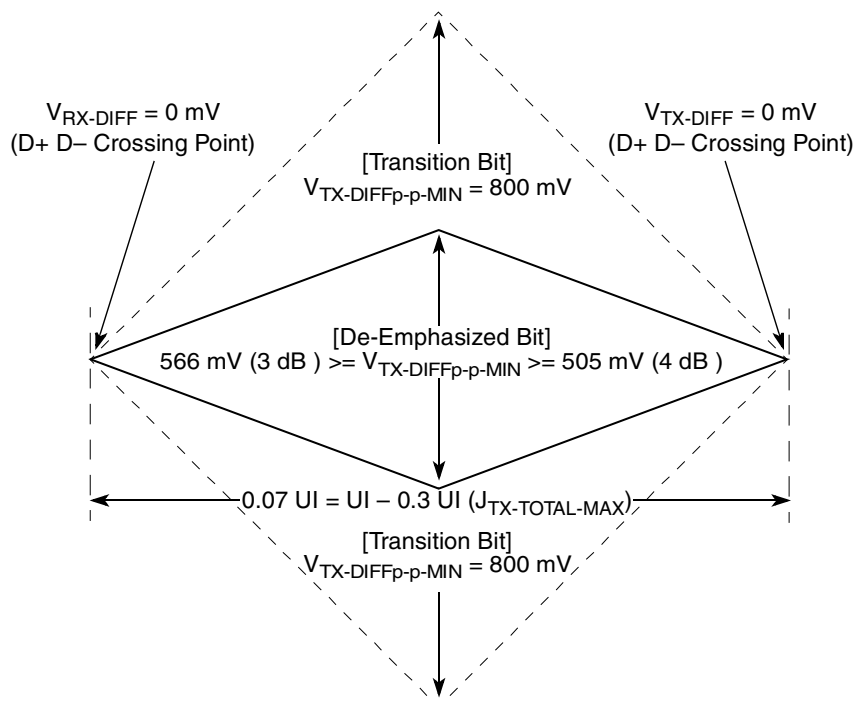
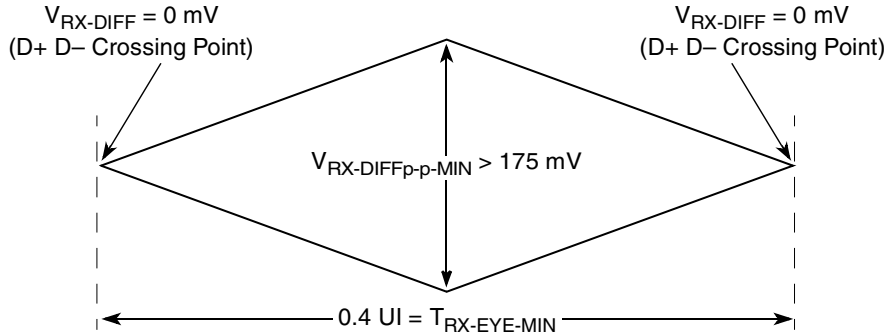
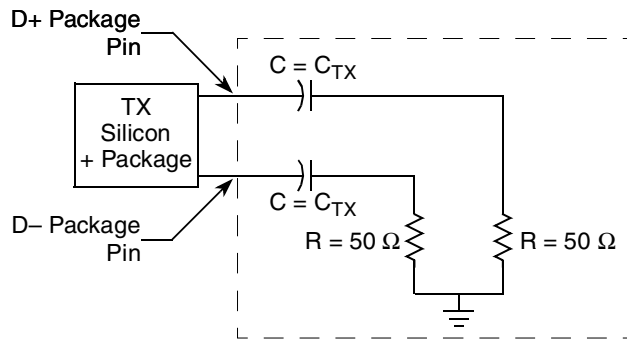

Figure 41. Minimum Transmitter Timing and Voltage Output Compliance Specifications
Figure 42. Minimum Receiver Eye Timing and Voltage Compliance Specification
Figure 43. Compliance Test/Measurement Load
- 2.) Specified at the measurement point into a timing and voltage compliance test load as shown in Figure 43 and measured over any 250 consecutive TX UIs. (Also refer to the transmitter compliance eye diagram shown in Figure 41.)
- 4.) The transmitter input impedance shall result in a differential return loss greater than or equal to 12 dB and a common mode return loss greater than or equal to 6 dB over a frequency range of 50 MHz to 1.25 GHz. This input impedance requirement applies to all valid input levels. The reference impedance for return loss measurements is 50 Ω to ground for both the D+ and D- line (that is, as measured by a vector network analyzer with 50- Ω probes—see Figure 43). Note that the series capacitors C_{TX} is optional for the return loss measurement.
- 5.) Measured between 20–80% at transmitter package pins into a test load as shown in Figure 43 for both $V_{\text{TX-D+}}$ and $V_{\text{TX-D-}}$.
The TX eye diagram in Figure 41 is specified using the passive compliance/test measurement load (see Figure 43) in place of any real PCI Express interconnect + RX component.
- 2.) Specified at the measurement point and measured over any 250 consecutive UIs. The test load in Figure 43 should be used as the RX device when taking measurements (also refer to the receiver compliance eye diagram shown in Figure 42). If the clocks to the RX and TX are not derived from the same reference clock, the TX UI recovered from 3500 consecutive UI must be used as a reference for the eye diagram.
- 4.) The receiver input impedance shall result in a differential return loss greater than or equal to 15 dB with the D+ line biased to 300 mV and the D– line biased to –300 mV and a common mode return loss greater than or equal to 6 dB (no bias required) over a frequency range of 50 MHz to 1.25 GHz. This input impedance requirement applies to all valid input levels. The reference impedance for return loss measurements for is 50 Ω to ground for both the D+ and D– line (that is, as measured by a Vector Network Analyzer with 50-Ω probes—see Figure 43). Note that the series capacitors CTX is optional for the return loss measurement.
The RX eye diagram in Figure 42 is specified using the passive compliance/test measurement load (see Figure 43) in place of any real PCI Express RX component.
Note: In general, the minimum receiver eye diagram measured with the compliance/test measurement load (see Figure 43) will be larger than the minimum receiver eye diagram measured over a range of systems at the input receiver of any real PCI Express component. The degraded eye diagram at the input receiver is due to traces internal to the package as well as silicon parasitic characteristics which cause the real PCI Express component to vary in impedance from the compliance/test measurement load. The input receiver eye diagram is implementation specific and is not specified. RX component designer should provide additional margin to adequately compensate for the degraded minimum receiver eye diagram (shown in Figure 42) expected at the input receiver based on some adequate combination of system simulations and the return loss measured looking into the RX package and silicon. The RX eye diagram must be aligned in time using the jitter median to locate the center of the eye diagram.
The reference impedance for return loss measurements is $50\ \Omega$ to ground for both the D+ and D- line (i.e., as measured by a vector network analyzer with $50\text{-}\Omega$ probes—see Figure 43). Note that the series capacitors, CTX, are optional for the return loss measurement.
The AC timing and voltage parameters must be verified at the measurement point, as specified within 0.2 inches of the package pins, into a test/measurement load shown in Figure 43.